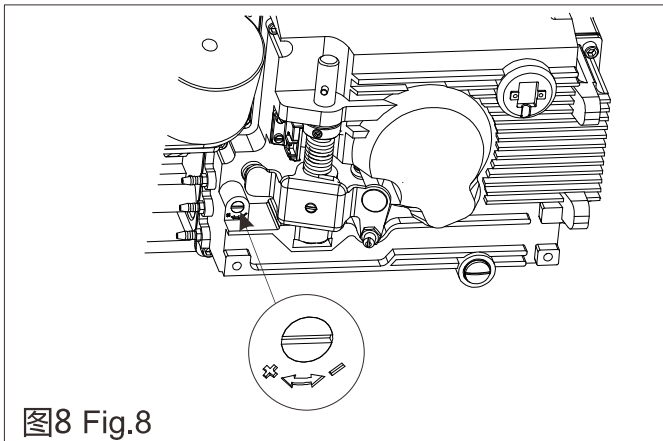
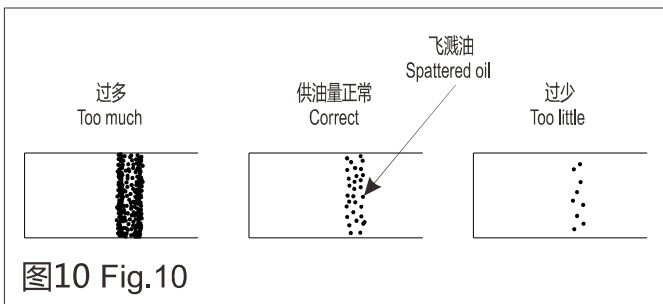
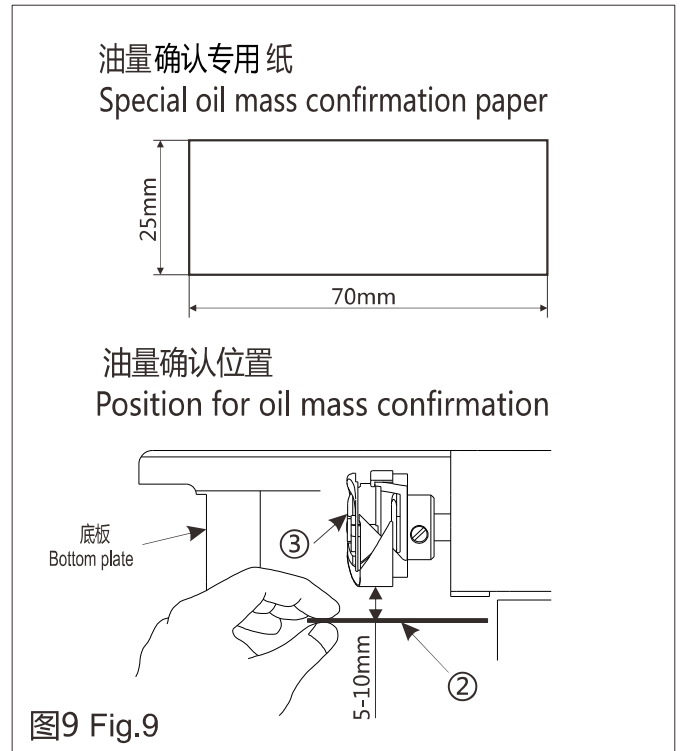

图8 Fig.8
图10 Fig.10
图9 Fig.9
7 旋梭油量调节 (图8、图9、图10) Oil mass Adjustment of Rotating Hook (Fig. 8 , Fig. 9 , Fig. 10)
1) 上图标样(见图10)可根据不同的缝纫工序需求进行增或减的微调整, 但应注意不要增加或减少过多。油量过少时会引起旋梭发热, 油量过多时会污染缝料。
1) The guide sample shown in the right-hand figure (see Fig. 10) may be finely adjusted (increased or reduced) as per different sewing processes; however, excessive increase or reduction shall be avoided. Too little oil mass may lead to rotating hook heating, and over much oil mass may lead to contamination of the sewing materials.